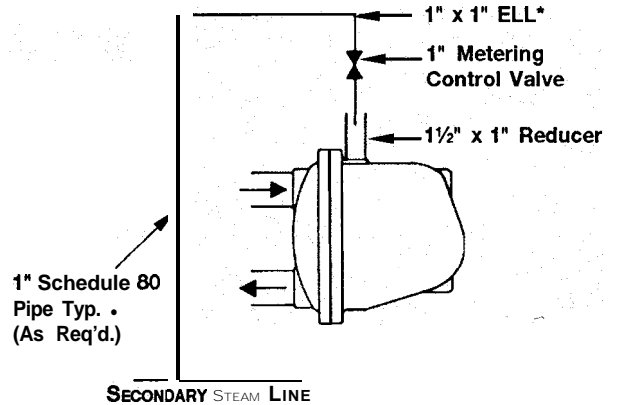

FIGURE 3. Piping arrangement when secondary steam is collected and reused in heat transfer equipment.
- D) When secondary steam is to be collected and reused in heat transfer equipment, refer to the piping arrangement in Figure 3.